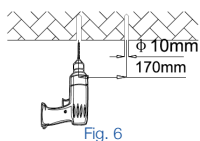

Fig. 6
2. Use a hammer to put the expansion screws into the holes (Fig. 6).